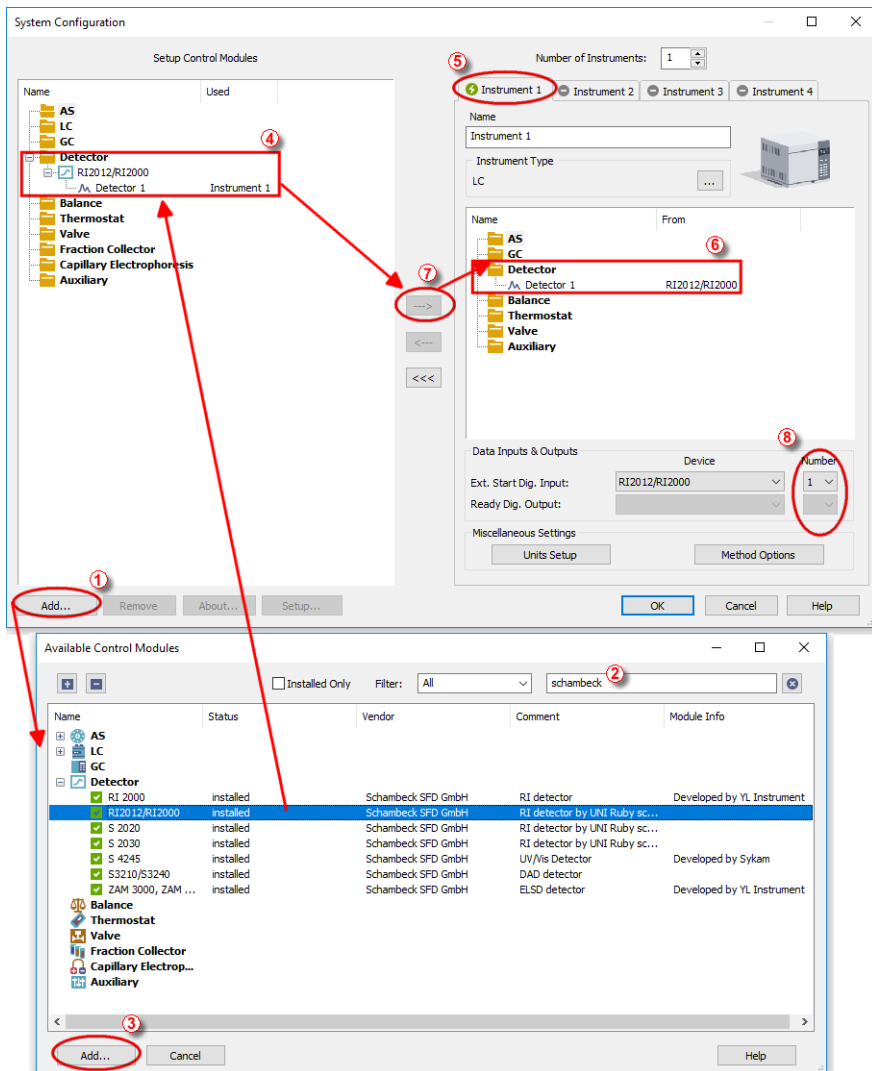

Fig 3: How to Add UNI Ruby module
- Press the *Add* button (① on **Fig 3** on pg 4.) to invoke the **Available Control Modules** dialog.
- You can specify the search filter (②) to simplify the finding of the driver.
- Select the correct item and press the *Add* (③ on **Fig 3** on pg 4.) button. Each device with already created UNI profile should have its own item named accordingly in the **Available Control Modules** dialog.